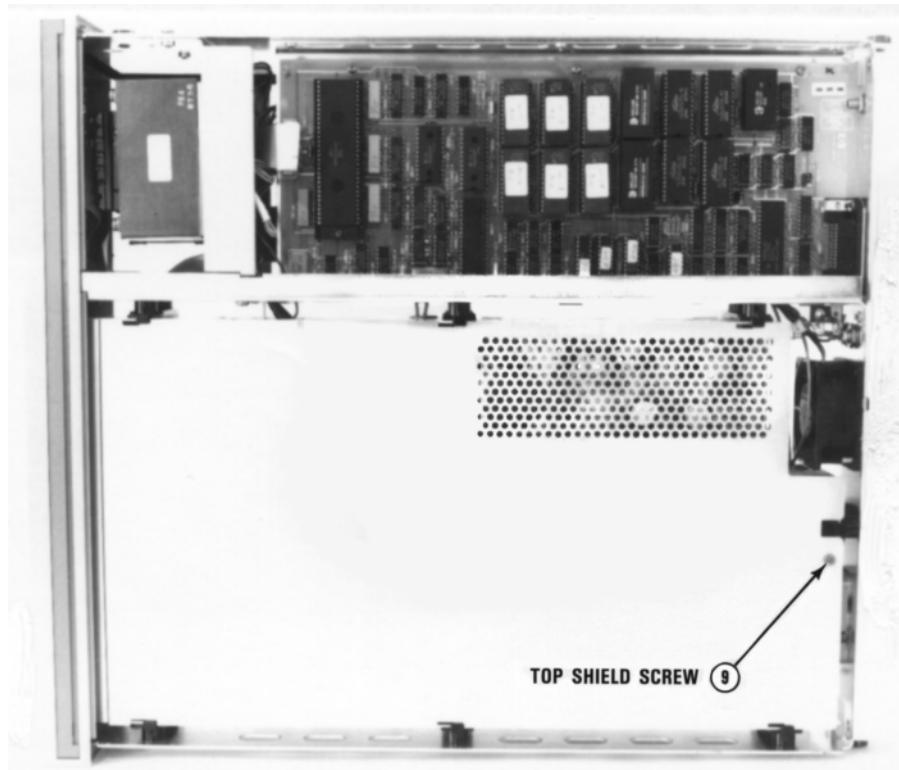

Figure C-7 3458A inside top view
- 1 Refer to Figure C-7. Turn the instrument over so its bottom sits on your work bench.
- 4 Refer to Figure C-7. Replace the top shield. Line up the slots on the shield with the shield retainers. Then push the shield toward the front of the instrument until the shield screw hole lines up with the hole in the chassis. Use the #TX 10 Torx driver to reinstall the shield screw.